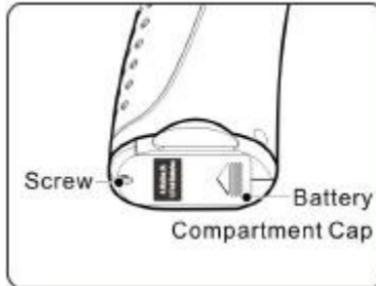

Fig.6
- 1) Turn the handheld display unit upside down to expose the battery compartment cap and screw. (**Fig. 6**)